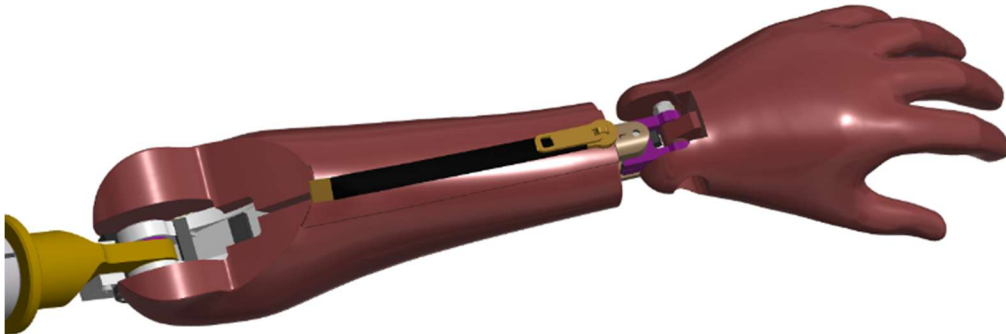

Figure 11-7. Unzip the Lower Arm Flesh
11.2.4 With the arm completely detached from the body, unzip the Lower Arm Flesh (474-6525) (Figure 11-7).